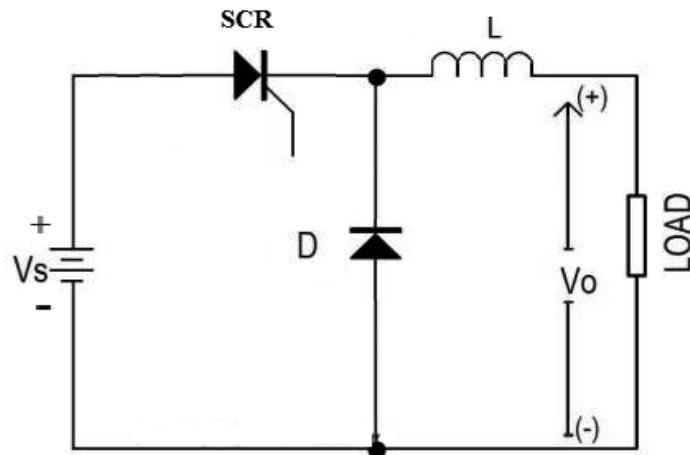

Fig. 12.1 Step down chopper with RL load
1. Make the circuit connection as per the circuit diagram shown in Fig. 12.1.